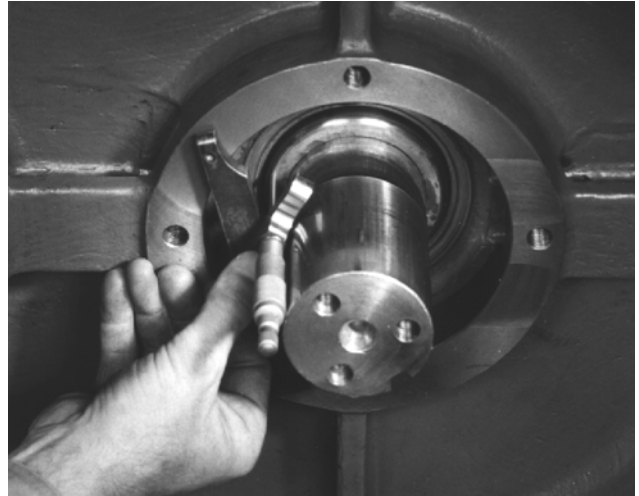

FIGURE 23
23. Remove tape from the shaft holding the bearing spacers in place. Tap the spacer to be sure it is solidly against the end of the rotor. This is important for the next measurement. With a depth micrometer on the same parallel bar used above, measure the distance to the end of the bearing spacer, FIGURE 23, page 35.